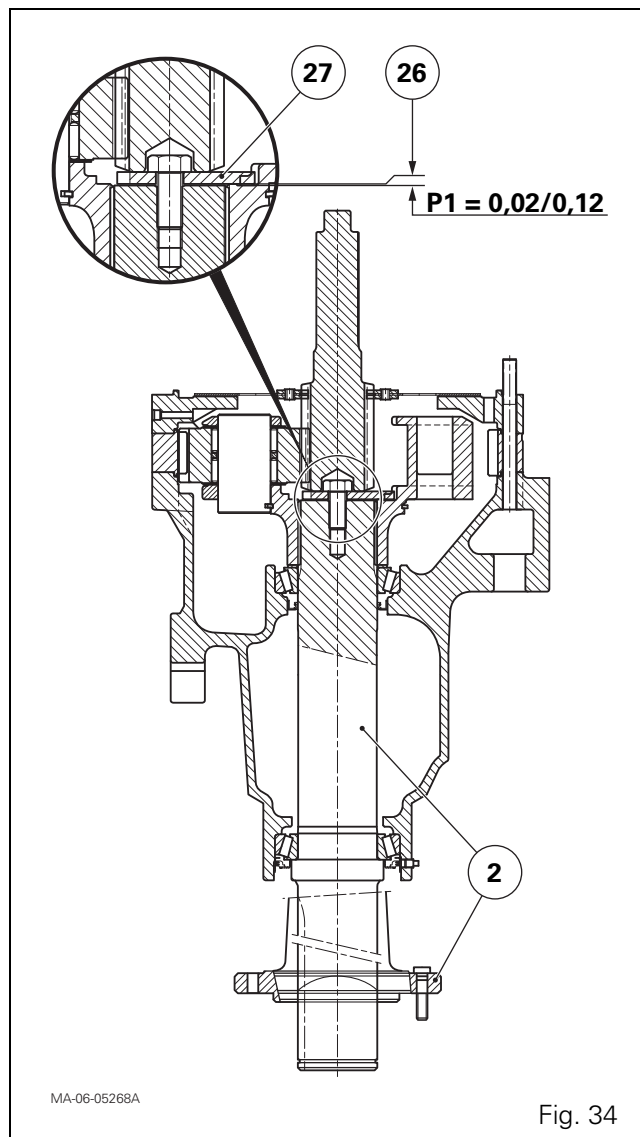

Fig. 34
101. Reduce the shim (26) thickness according to value $J + (0.02 \text{ to } 0.12)$ to obtain a preload $P1 = 0.02 \text{ to } 0.12 \text{ mm}$ (Fig. 34).